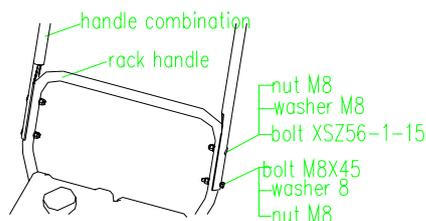

FIG 2
2.2.1 Assemble the handle combination to the handle bracket with bolt M8×45, bolt XSZ56-1-15, washer 8, and nut M8. (FIG 2)